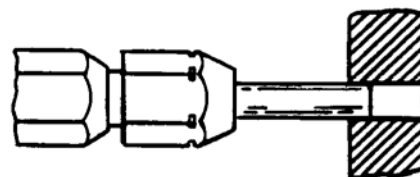

Figure 5
3. Align GO element with wire barrel crimping section. Push element straight into crimping chamber without using force. The GO element must pass completely through the chamber as shown in Figure 5.